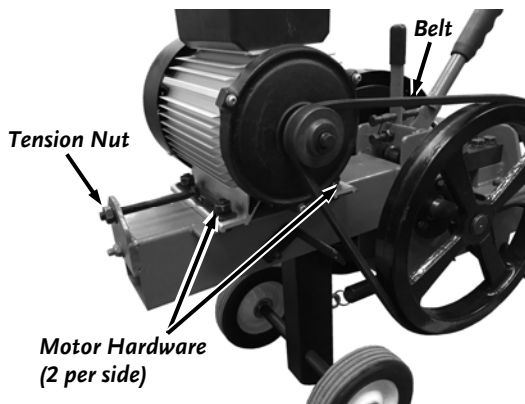

Figure 16
4. Loosen the Motor Hardware using a 14mm Wrench on the bolt and a 17mm Wrench on the nut (**Figure 16**).
2. Loosen the Motor Hardware using a 14mm Wrench on the bolt and a 17mm Wrench on the nut (**Figure 16**).